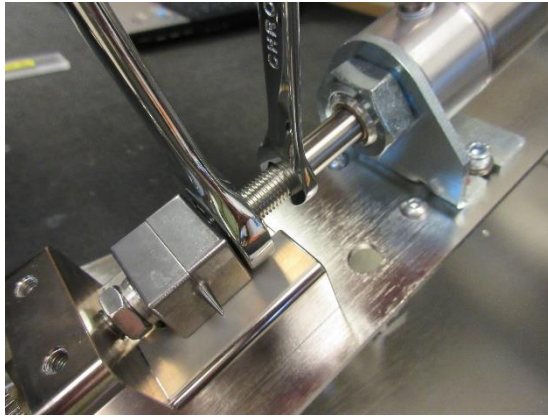

Figure 3.4.2
- Using a 1/2" open end wrench to hold the cylinder on the flats and a 3/4" open end wrench break the upper jaw nut loose by turning counter clockwise. **Figure 3.4.2.**